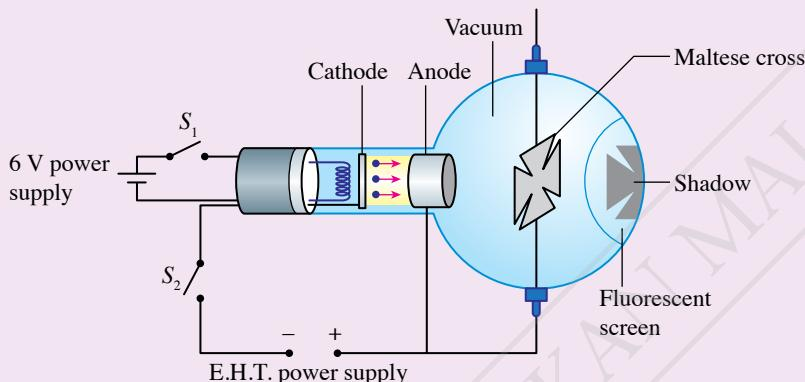

Figure 5.3 Maltese cross tube
- Set up the apparatus as shown in Figure 5.3.